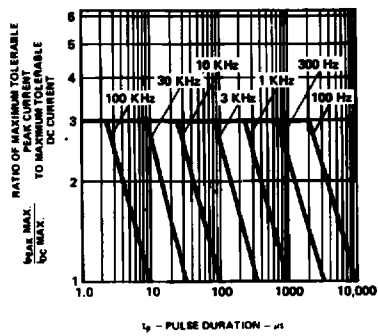

Figure 2. Maximum Tolerable Peak Current vs. Pulse Duration. ($I_{DC\text{ MAX}}$ as per MAX Ratings).
- See Figure 2 to establish pulsed operating conditions.